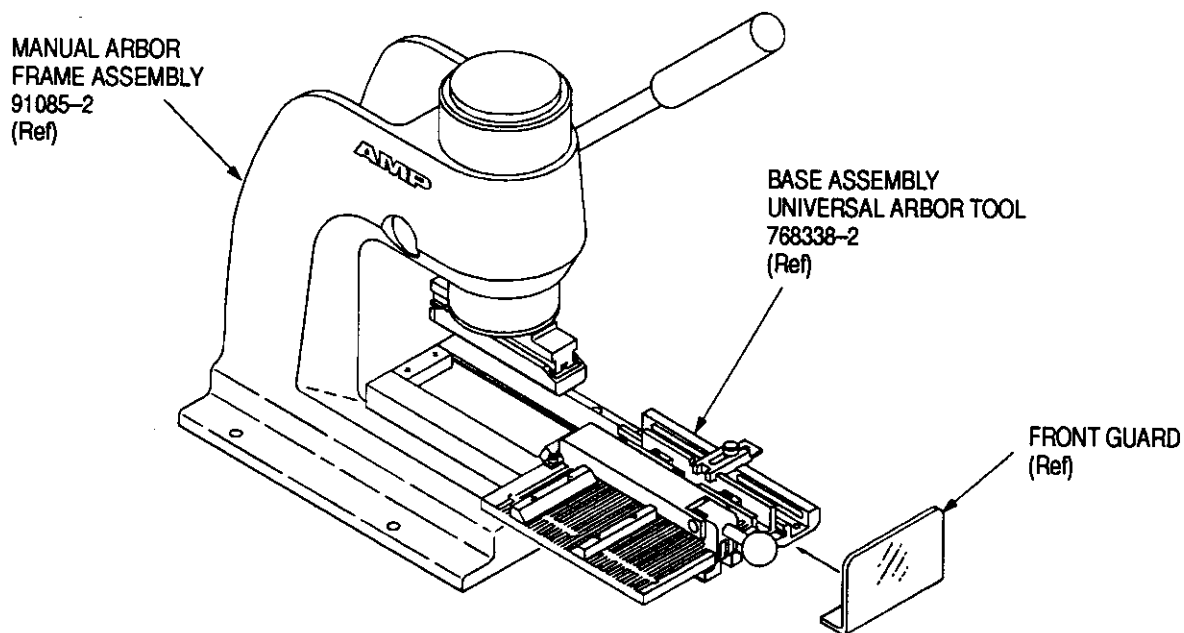

Figure 1
This instruction sheet covers the installation and setup procedures for AMP Connector-Specific Kit 679235-1. The connector-specific kit is used in conjunction with Base Assembly Universal Arbor Tool 768338-2 and AMP Manual Arbor Frame Assembly 91085-2 (see Figure 1), or AMP Pneumatic Auto-Cycle Unit 91112-3 to terminate AMPLIMITE .050 Series Plug and Receptacle Connectors to 0.64 [.025] centerline flat ribbon cable.
## 2. DESCRIPTION (Figure 1)
- Modified illustration of lower insert and locators in Figures 1, 2, 3, and 4